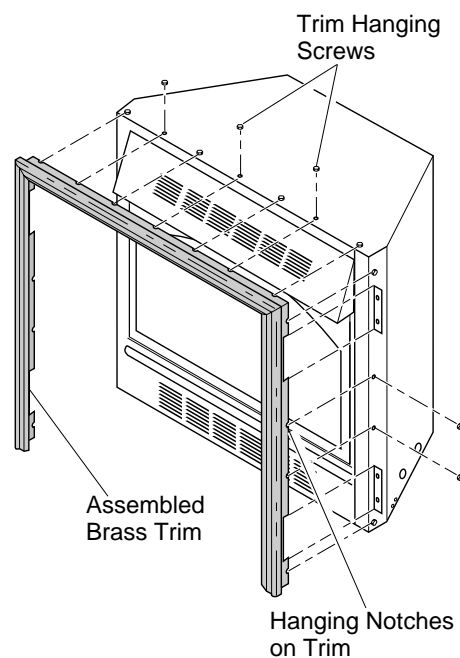

Figure 6 - Attaching Brass Trim to Fireplace
8. Tighten trim hanging screws (#10 x 6.25 shoulder) into holes in cabinets. Place the assembled trim onto fireplace cabinet. Align hanging notches on trim with hanging screws on side of fireplace (see Figure 6). Push trim firmly into place, sliding hanging notches over hanging screws.